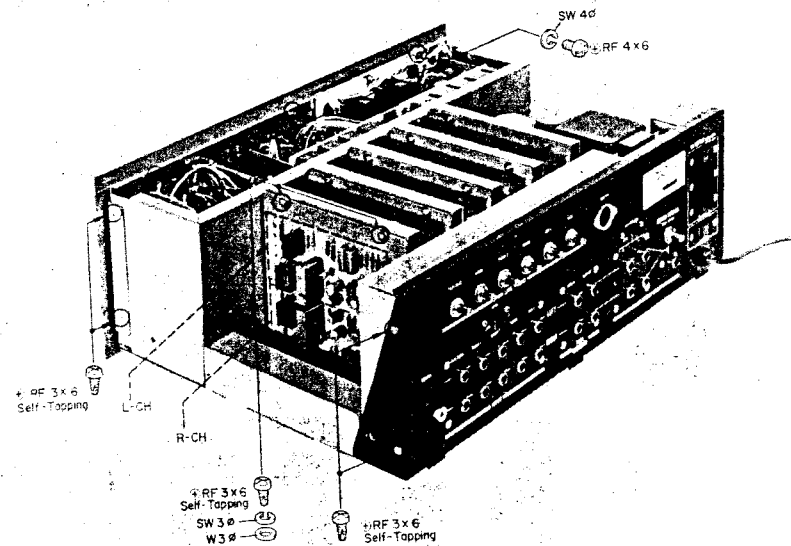

Fig. 2-2. Removal of Front-Panel Ass'y
- Remove the two self-tapping screws (+RF3 $\phi$   $\times$  6) on each side of the chassis. See Fig. 2-2.
- Remove the three Phillips-Head screws (+RF4 $\phi$   $\times$  6) behind the top edge of the Front Panel Assembly. See Fig. 2-2.